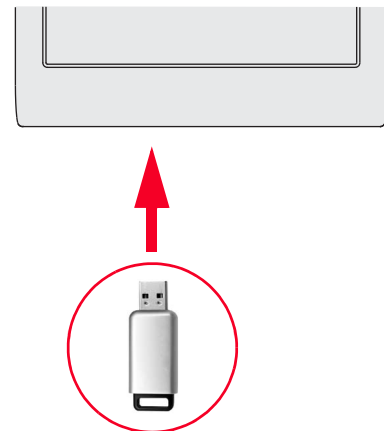

Fig. 276. Using USB device.
7. After the file is saved, remove the USB device from the computer and connect it to the thermostat. See Fig. 276. Then select the "Dealer Information" option on the thermostat.
6. After the file is saved, remove the USB device from the computer and connect it to the thermostat. See Fig. 276. Then select the "Software Update" option on the thermostat.